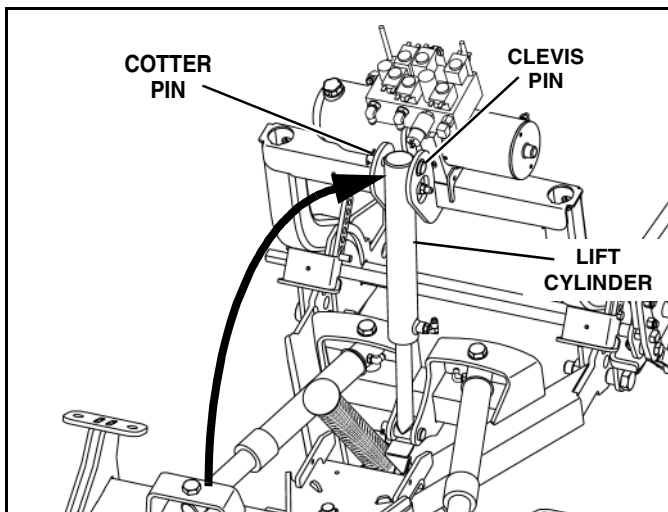

Figure 1-15
15. Flip lift cylinder up and secure to the light bar frame with a 3/4" clevis pin (p/n 98100441) and cotter pin (p/n 98009085). (See Figure 1-15).